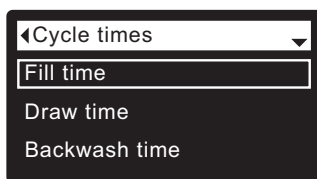

FIG. 73
5. Press the SELECT (O) button to display the Cycle times menu (See Figure 73).
9. Press the SELECT (O) button. The display will go back to the Cycle times menu (Figure 73).